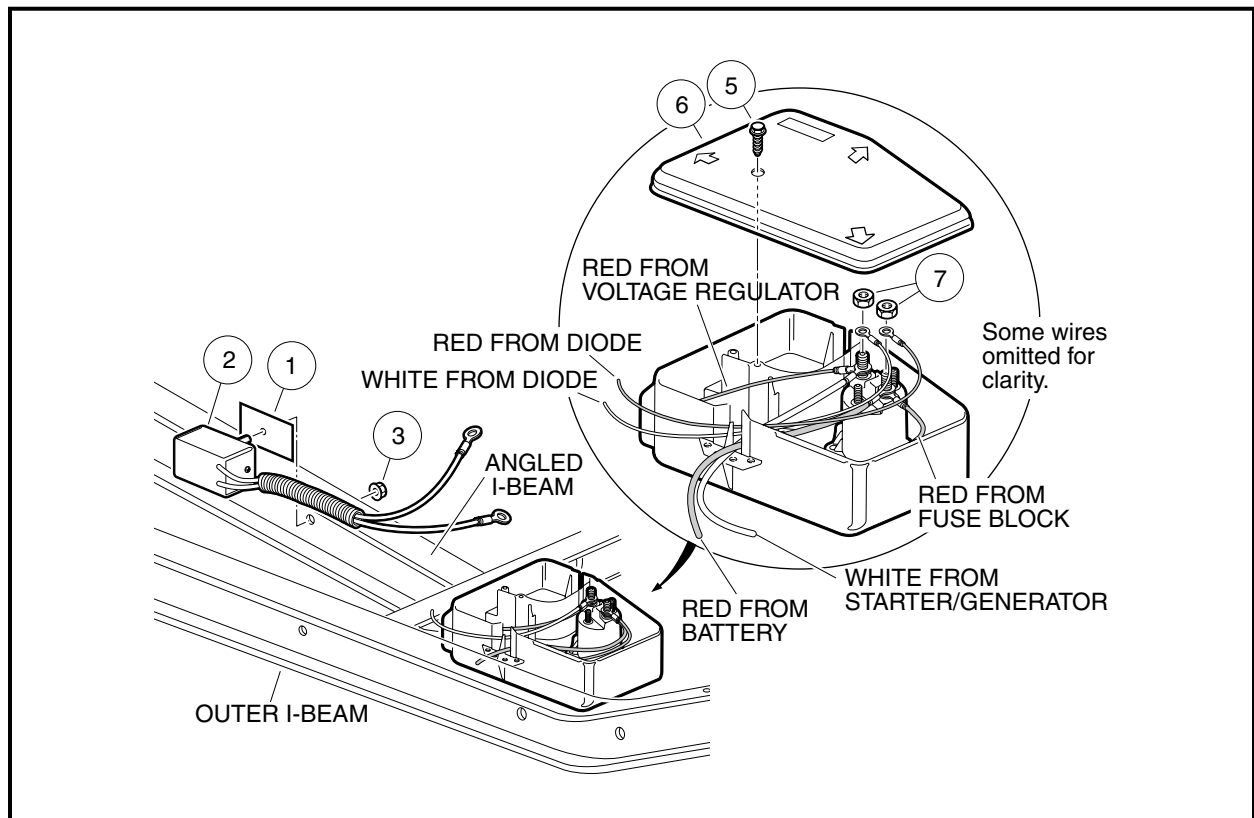

Figure 12-19 Electrical Control Box and Large Diode Orientation
5. Remove the cover retaining screw (5) and electrical component box cover (6) (**Figure 12-19, Page 12-15**).
6. Remove the nuts (7) from the two large solenoid posts and disconnect the diode wires from the solenoid.
2. Peel the protective film from both sides of the new thermal pad (1) (**Figure 12-19, Page 12-15**). See following **CAUTION**.
3. Mount the diode (2) to the frame using the thermal transfer pad (1) and mounting nut (3). Tighten to 25 in-lb (2.8 N·m) (**Figure 12-19, Page 12-15**).
- 4.1. Connect the 12-gauge red wire from the diode to the solenoid post with the fuse block and battery red wires (**Figure 12-19, Page 12-15**). Tighten lock nut to 90 in-lb (10.2 N·m).